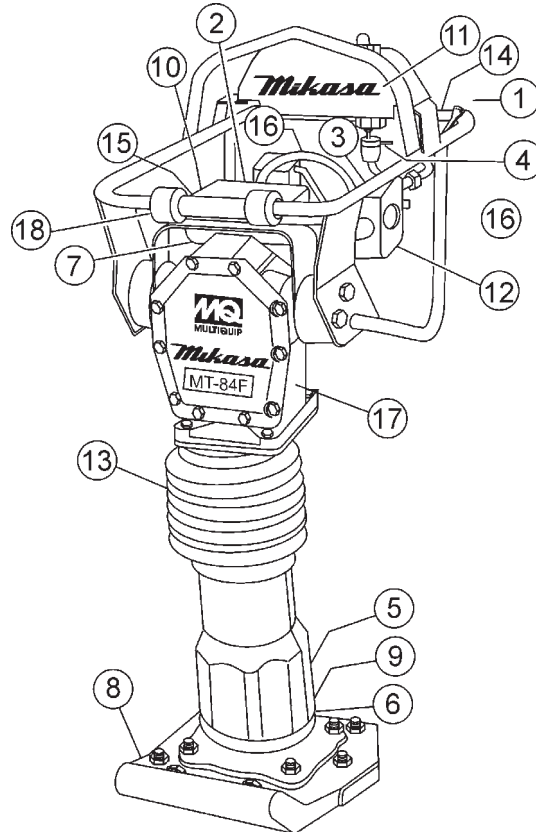

Figure 2. MT-84F Rammer
Before starting the MT-84F Tamping Rammer, identify and understand the function of the controls. See Figure 2.
Figure 2 shows the location of the controls and components for the MT-84F Tamping Rammer. The functions of each control is described below:
2. If oil is not visible, add 10W-30 motor oil into the oil fill plug opening (Figure 2). The bath contains approximately 1.7 pints (800 cc.)